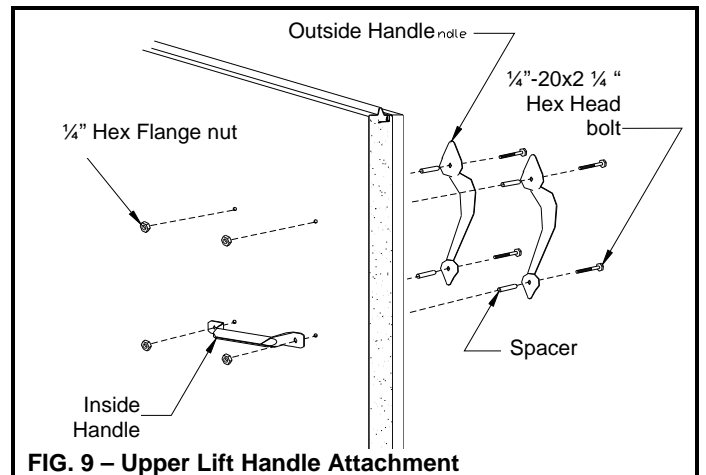

FIG. 9 – Upper Lift Handle Attachment
Step 10: Attach each vertical ornamental handle (outside) and one steel horizontal roll grip handle (inside) to the door using two 1/4"-20x2 1/4" black painted hex head bolts, and two 1/4" hex flange nuts. Use a set of hex head bolts and hex nuts to fasten the vertical handles to the door through the remaining holes. The inside handle may be matched with either set of holes so long as it is no closer than 4" to the top or bottom of the section (See Fig. 9).